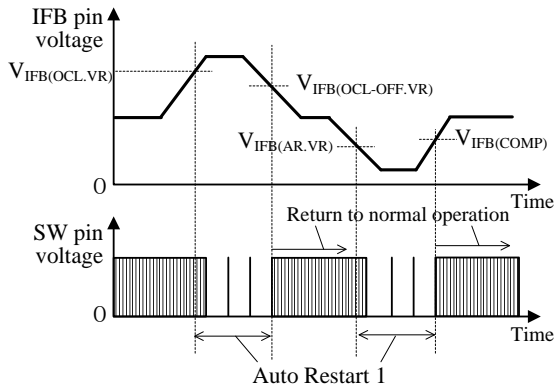
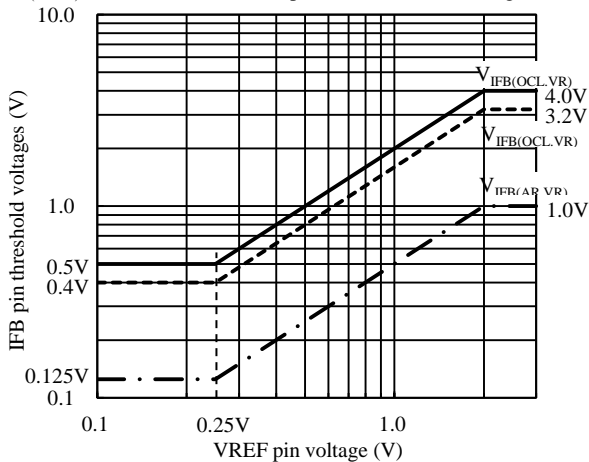

Figure 8-19 IIFB pin threshold voltage and Auto Restart 1 operation
Figure 8-20 VREF pin voltage versus IFB pin threshold voltages
As shown in Figure 8-19, IFB pin has two types of threshold voltage. These threshold voltages depend on the VREF pin voltage, as shown in Figure 8-20.
When the FB pin voltage increase to $V_{IFB(OCL.VR)}$ in Figure 8-20, or more, the operation of the IC switches to Auto Restart 1. When the fault condition is removed and the IFB pin voltage decreases to $V_{IFB(OCL-OFF.VR)}$ in Figure 8-20, or less, the IC returns to normal operation automatically.
When the FB pin voltage decrease to $V_{IFB(AR.VR)}$ in Figure 8-20, or more, the operation of the IC switches to Auto Restart 1. When the fault condition is removed and the IFB pin voltage increases to above $V_{IFB(OMP)}$, the IC returns to normal operation automatically.
(2) When IFB pin voltage becomes $V_{IFB(OCL.VR)}$ or more (see Figure 8-20), the IC switches to Auto Restart 1.
(3) The LED current increases further and when the IFB pin voltage increases to the IFB Pin Overcurrent Protection High Threshold Voltage, $V_{IFB(OCH)} = 4.0$ V or more, the IC switches to Auto Restart 2.
When the LED_OUT (+) or the IFB pin is open and the OVP pin voltage increases to the OVP Pin Overvoltage Protection Threshold Voltage, $V_{OVP} = 3.00$ V, the IC immediately stops switching operation. When the OVP pin voltage decreases to the OVP Pin Overvoltage Protection Release Threshold Voltage, $V_{OVP(OFF)} = 2.75$ V or the IFB pin voltage decreases to $V_{IFB(AR.VR)}$ in Figure 8-20, then the IC switches to Auto Restart 1.
When the LED_OUT (-) and the GND are shorted, and the IFB pin voltage decreases to $V_{IFB(AR.VR)}$ in Figure 8-20, then the IC switches to Auto Restart 1.
When the output current detection resistor (R15, R61), is shorted, the IFB pin voltage decreases. When the IFB pin voltage decreases to $V_{IFB(AR.VR)}$ in Figure 8-20, then the IC switches to Auto Restart 1.